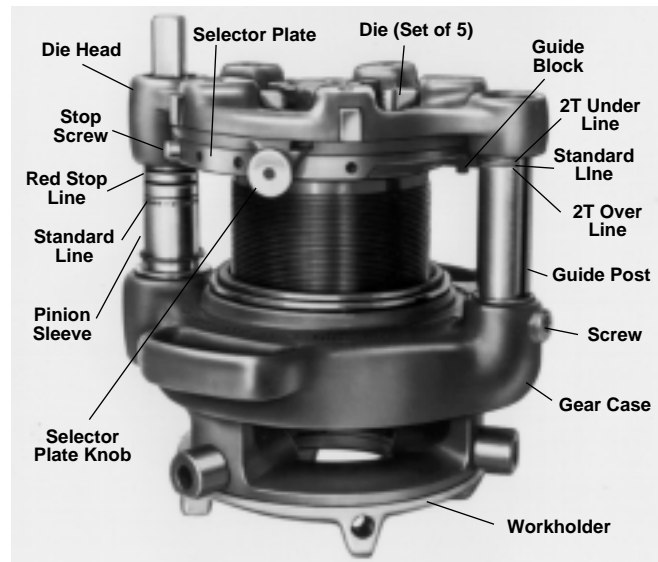

Figure 8 – No. 141 Geared Threader Showing Pinion Sleeve And Guide Post Reference Lines (No. 161 Geared Threader Similar)
Grasp workholder and turn square end of drive shaft or turn gear case by hand to respective reference lines on guide post (*Figure 8*).
(*Figure 8*)
4. Turn guide post until straight slot faces inward for straight thread, or tapered slot inward for tapered thread. Figure 8 shows guide post set to cut tapered thread.
1. Remove stop screw (*Figure 8*) from selector plate.
2. Pull knobs (*Figure 8*) and rotate cam plate to CD mark on top of die head.
3. Remove worn die set (*Figure 8*) and insert new die set.